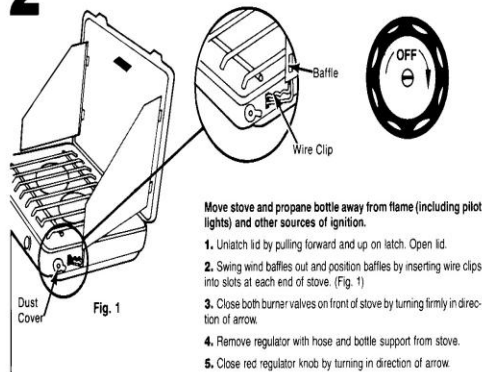

Fig. 1
2. Swing wind baffles out and position baffles by inserting wire clips into slots at each end of stove. (Fig. 1)